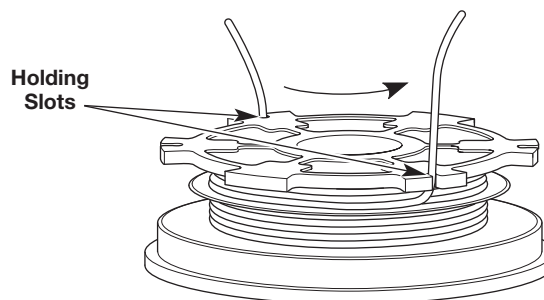

Fig. 16
3. Insert the two 6-inch sections into the two .080 holding slots (Fig. 16).
4. Insert the two 6-inch sections into the two .080 holding slots (Fig. 16).